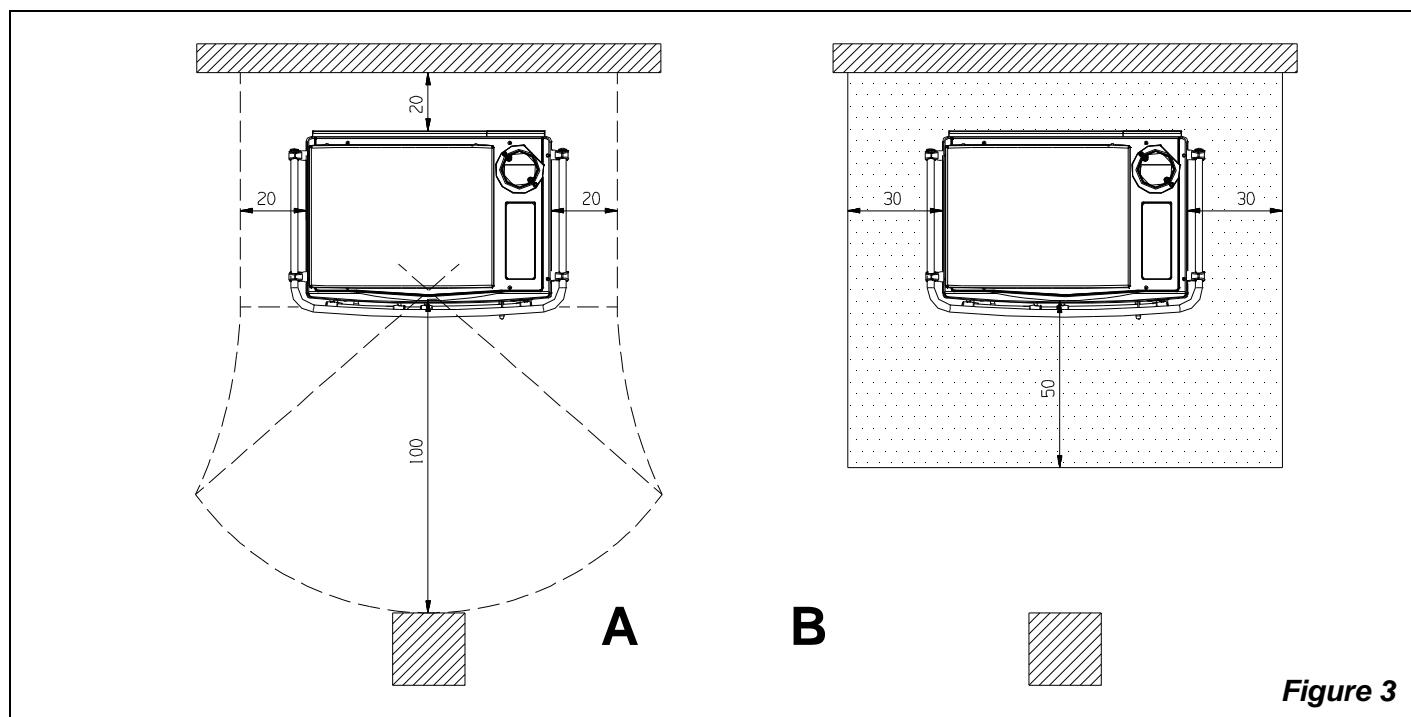

Figure 3
- the minimum distance from flammable object and sensitive to heat (furniture, wood sheathings, fabrics, etc.) and from materials with flammable structure must be **20 cm's**. on the back and on both sides, in order to assure a sufficient thermal insulation (Figure 3 A).
- if the cooker must be installed on a floor not completely refractory, you must foresee a fireproof background, e.g. a steel platform (size according to regional filing). The platform must stick out **50 cm's** in front and **30 cm's** sideways (Figure 3 B)